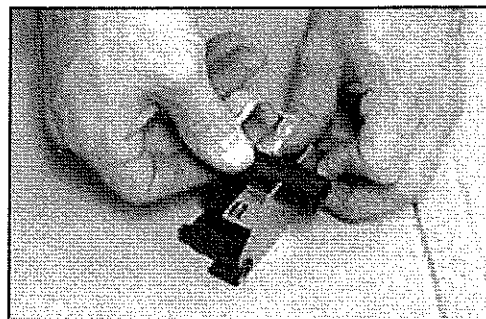

Fig. 7
2. Insert the threaded section of the ignitor into the U-shaped cut out of the ignitor mounting bracket. (See Fig. 7)